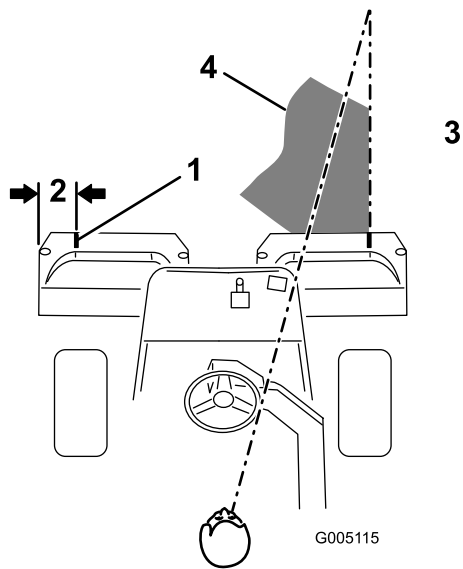
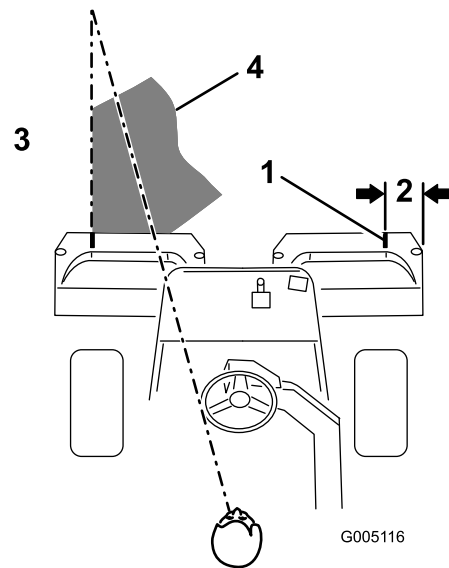

Figure 38
Figure 39
2. Either place a strip of white tape or paint a line onto each basket paralleling the outer edge of each basket (Figure 38).
3. Overlap a minimal amount with the previous cut on return passes. To assist in maintaining a straight line across the green and keep the machine an equal distance from the edge of the previous cut, establish an imaginary sight line approximately 6 to 10 ft (1.8 to 3 m) ahead of the machine to the edge of the uncut portion of the green (Figure 38 and Figure 39). Some find it useful to include the outer edge of the steering wheel as part of the sight line; i.e. keep the steering wheel edge aligned with a point that is always kept the same distance away from the front of the machine (Figure 38 and Figure 39).